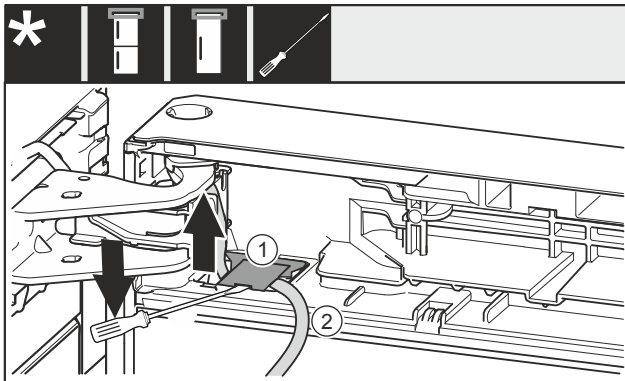

Fig. 22
- Use the screwdriver to lift up the cover *Fig. 22 (1)* and pull it out.
- Pull out the cable *Fig. 22 (2)*.